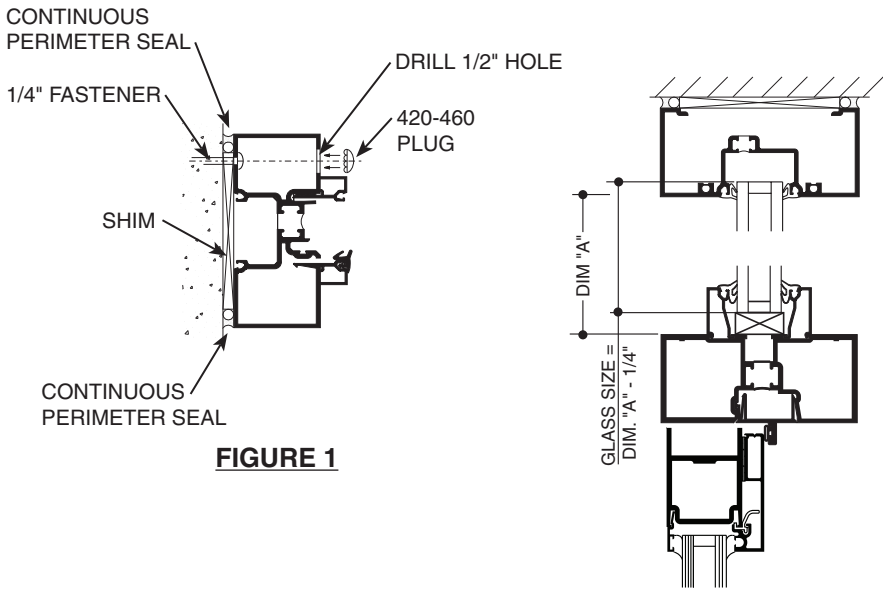

FIGURE 1
2. For a perimeter condition with the door jamb mullion, drill 1/2" Dia. hole for 420-460 plug. Drill clearance hole for 1/4" fastener. Maximum fastener spacing is 24". See below for additional head and sill requirements (Figure 1).